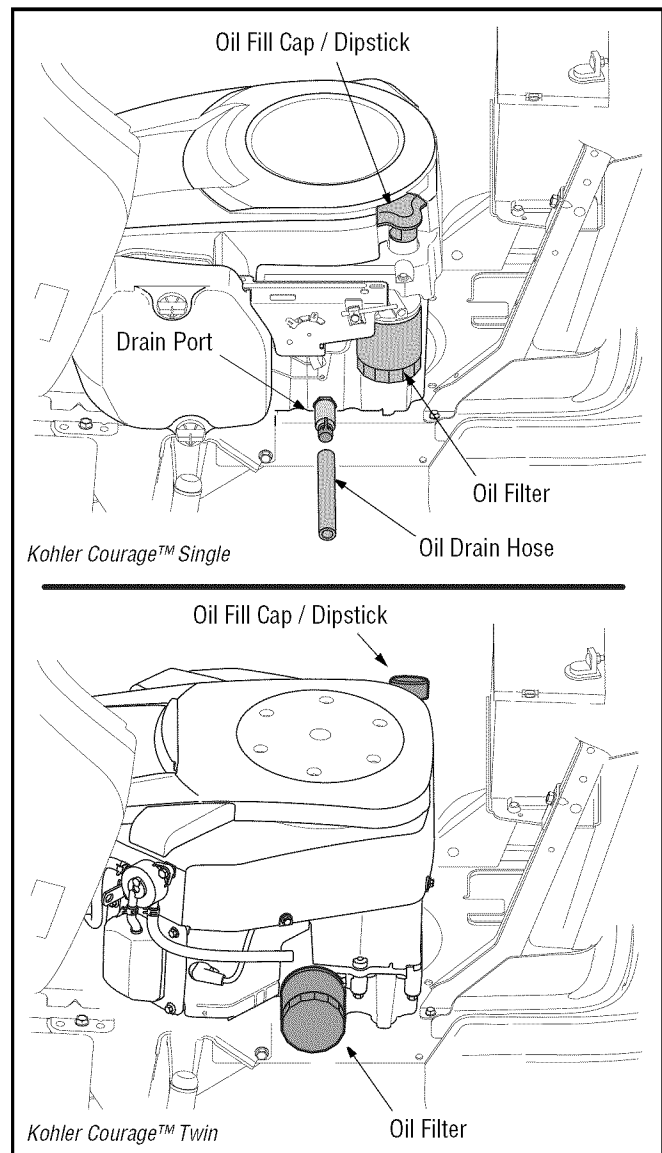

Figure 13
- Pop open the protective cap on the end of the oil drain valve to expose the drain port. See Figure 13.